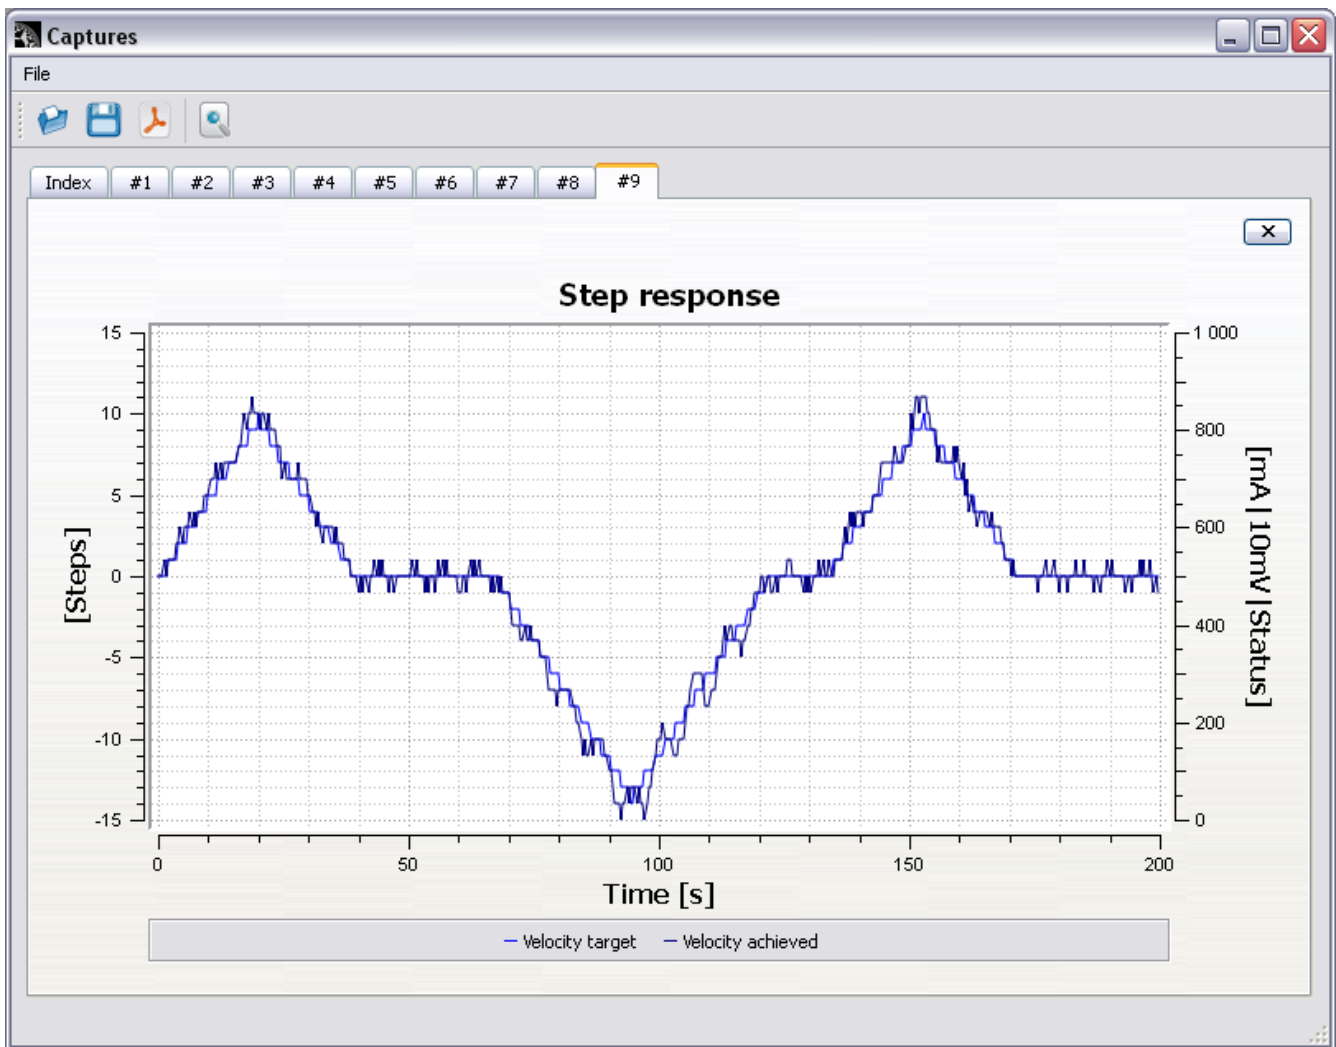

Figure 9: Too high velocity I-gain value
- When you no longer get reduction in difference or start getting noisy operation or even worsening difference, like in Figure 9, decrease **Velocity I** gain and return to step 6.